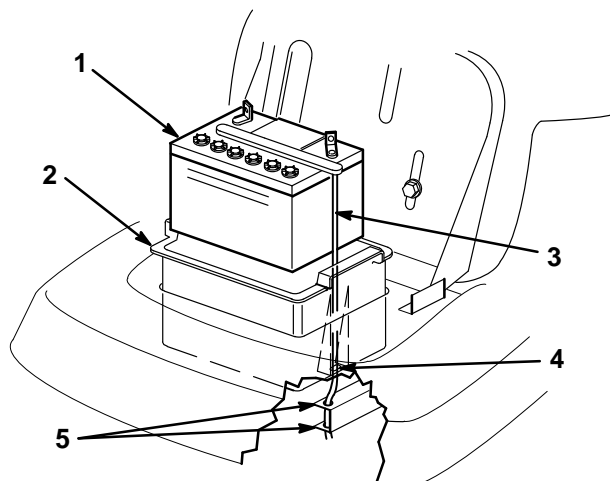

Figure 20
5. Remove the battery box, battery, and long vent tube from the chassis (Fig. 20).
1. Put the battery into the battery box and slide the vent tube into the channel and through the slot in the bottom of the box (Fig. 20).
IMPORTANT: Look down into the cut out area where the battery box fits into the chassis. Notice the hole at the end of the right frame member (Fig. 20). Always install the long battery vent tube through the hole to prevent battery acid from corroding the tractor and mower.
- Install the battery box and battery into the chassis (Fig. 20). Make sure to slide the end of the vent tube through the hole in the frame (Fig. 20).